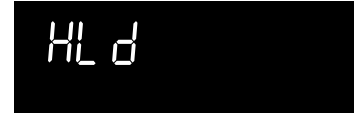

Fig. 3
- "HLd" for hold will appear in the display (Fig. 3).
"HLd" for hold will appear in the display (Fig. 3).